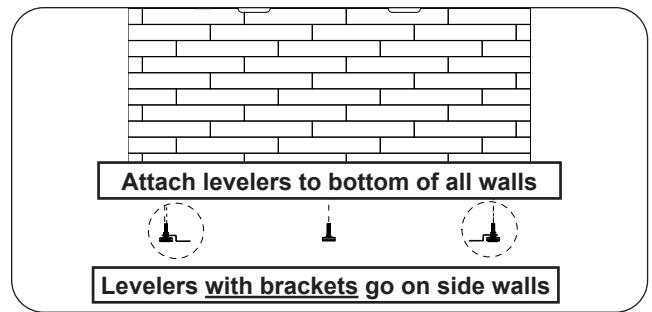

Fig. 11-1 Attach levelers
2. Carefully lay down all pieces that make up the island base and attach the levelers (see Fig. 11-1).